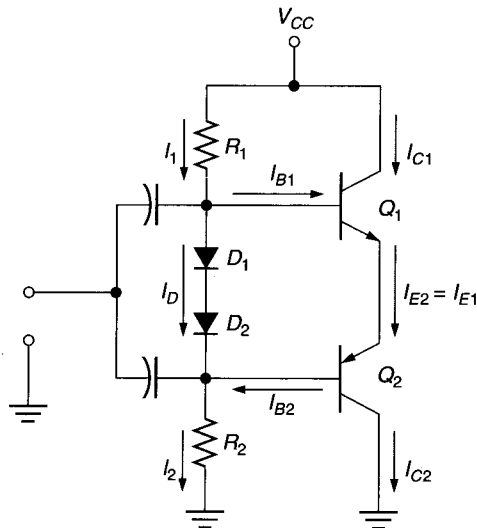
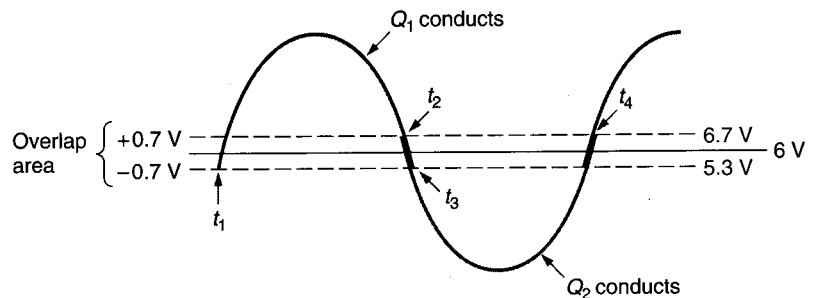

FIGURE 11.29
FIGURE 11.30
With 1.4 V developed across the biasing diodes,  $V_B$  of  $Q_1$  is at 5.3 V + 1.4 V = 6.7 V. The value of  $V_E$  for  $Q_1$  is 6 V, as is shown in the figure. Since  $V_B$  for this *nnp* transistor is 0.7 V more positive than  $V_E$ ,  $Q_1$  also conducts. Thus, both transistors in the diode-biased amplifier conduct, and some measurable value of  $I_C$  is present, as shown in Figure 11.29.
You have been told that  $I_{CQ}$  has some measurable value when diode bias is used. For this reason, the amplifier cannot technically be classified as a class B amplifier. This point is illustrated with the help of Figure 11.30, which shows a typical input waveform for the circuit in Figure 11.29.
The alternations shown in Figure 11.30 are offset to illustrate a point. In reality, the waveform is identical to any other sinusoidal waveform.
To simplify our discussion, we are going to make an assumption: A transistor conducts until its base and emitter voltages are equal, at which time it turns off. With this in mind, let's look at the circuit's response to the waveform shown in Figure 11.30.
$Q_1$  (in Figure 11.29) conducts as long as its base voltage is more positive than 6 V. The value of  $V_B$  drops to 6 V at  $t_1$  and  $t_3$  because the  $-0.7 \text{ V}$  value of  $v_{in}$  subtracts from the 6.7 V value of  $V_{B(Q1)}$ . Thus, we can assume that  $Q_1$  conducts for the entire time between  $t_1$  and  $t_3$ . The same principle applies to  $Q_2$ . At  $t_2$  and  $t_4$ ,  $Q_2$  turns off, because the  $+0.7 \text{ V}$  value of  $v_{in}$  adds to the value of  $V_{B(Q2)}$ , causing  $V_B$  and  $V_E$  to be equal. Thus,  $Q_2$  conducts for the entire time between  $t_2$  and  $t_4$ .
1. The increase in diode temperature causes the 1.4 V drop across  $D_1$  and  $D_2$  to *decrease*. At the same time,  $I_D$  *increases* (see Figure 11.29).